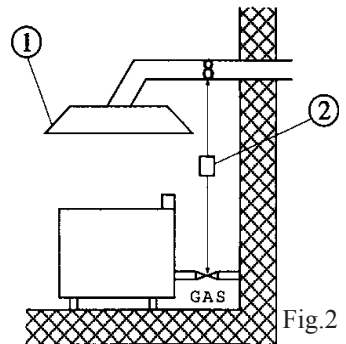

Fig.2
If there is no hood, as an alternative, an air extractor connected directly to the outside is acceptable, **(Forced Discharge)** Fig.2, but its capacity must not be inferior to what is established in item 4.3 of the UNI-CIG norm 8723.